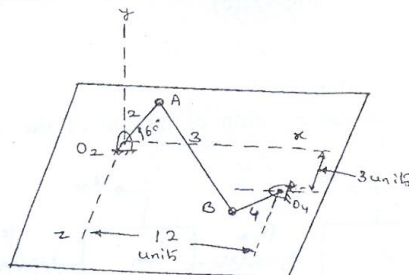

Fig. Q8(b)
- b. A RGGR mechanism is shown Fig. Q8(b). Find the position of all the moving links in the configuration shown. (10 Marks)